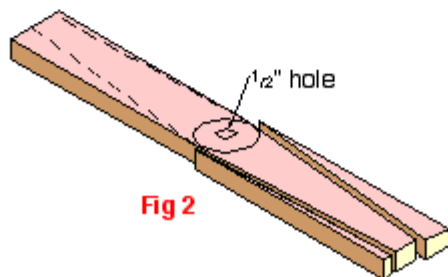

Fig 2
2. Drill No. 1, 3 to 12 & 14 with a 1/2" hole clean through in the centre middle see Fig 2.
3. Counter drill a 1" dia hole, 1" deep, on boards No. 1 and 14 ONLY. See Fig 2. a This allows the nuts & washers to be counter sunk in the top and bottom boards. Board 14 must be neatly drilled with a forstner bit, with no tear out as this hole will later be plugged.
6. To reduce the amount of rotary shaping time later, some waste material can be sawn away from the spiral timbers (ie Nos 3 - 12) This is drawn onto the ends of the boards and as shown at Fig 2, a cutting line is transferred to the board face ready for sawing. This is optional as the waste can be shaped away after gluing.
10. Fig 2 shows how lines are transcribed onto the face of most boards to show the waste sawing line. Every saw line runs back to the middle outside edge so that a propeller shape emerges on each board in the spiral. Later when shaping, you can, if you wish, accentuate this hub shape. Of course the steel rod is contained in